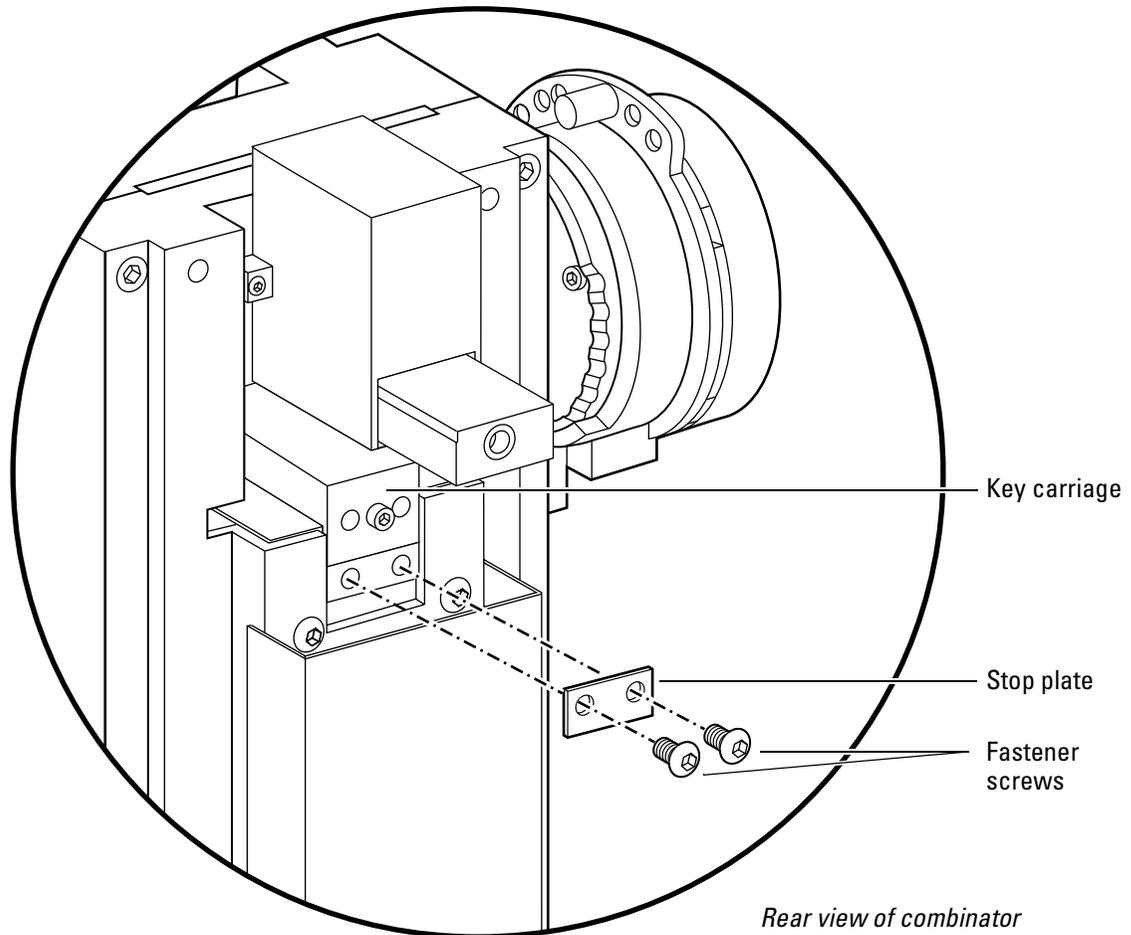

Figure 3.9 Removing the key carriage
1. Using a 1/8" Allen wrench, unscrew the two fastener screws at the rear of the key carriage. Remove the rear stop plate from the back of the key carriage, as shown in Figure 3.9.